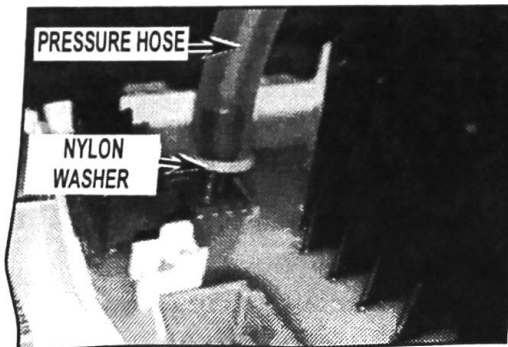

FIGURE 1
2. The Appliance Control Unit (ACU) service replacement part should have a nylon washer pre-installed on the pressure sensor fitting. See *Figure 1*.
3. Replace ACU, press the pressure hose onto the pressure sensor fitting until it rests against the washer. See *Figure 1*.